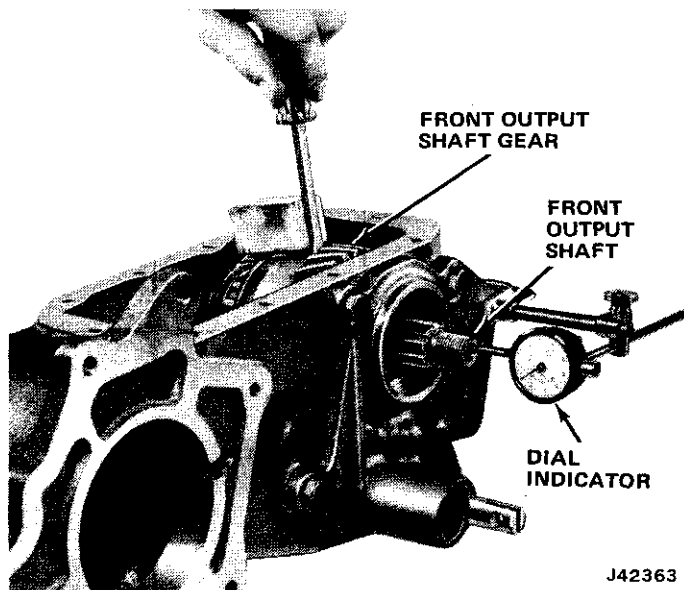

Fig. 2D-14 Checking Front Output Shaft End Play
(5) Install front output shaft shift rail poppet ball and spring.
(6) Compress ball and spring and install front output shaft rod part way into case.
(7) Install and position front output shaft shift fork so setscrew offset faces front of case.
(8) Insert front output shaft shift rod through shift fork.
(9) Align setscrew holes in fork and rod and install setscrew. Tighten setscrew to 14 foot-pounds (19 N•m) torque.
(10) Install front output shaft front bearing, bearing spacer, front output shaft sliding gear, and front output shaft gear. Be sure shift fork groove in sliding gear faces rear of case.
(11) Install front output shaft through gears, spacer, and bearing.
(12) Support case on wood blocks and drive front output shaft into front housing using brass drift and hammer. Be sure bearing is seated against shoulder on front output shaft.
(13) Install front output shaft rear bearing cup using wood block and hammer.
(14) Install rear bearing, cover plate, and shims. Tighten cover plate bolts to 30 foot-pounds (41 N•m) torque.
(15) Check front output shaft end play as follows (fig. 2D-14):